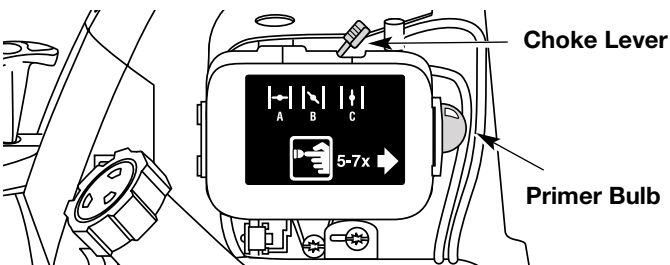

Fig. 9
4. Place the choke lever in the **FULL choke (A) |←|** position (Fig. 9).
NOTE: Slide the choke lever directly above the appropriate symbol on air filter cover decal (Fig. 9).
5. Fully press and release the primer bulb slowly 7 times. Gasoline should be felt and visible in the bulb (Fig. 9). If gasoline has not entered the bulb, press three more times, or until it does.
8. Move the choke lever to the **PARTIAL (B) |↘|** position (Fig. 9).
2. Move the choke lever to the **PARTIAL (B) |↘|** position (Fig. 9).
3. Fully press and release the primer bulb slowly 7 times. Gasoline should be felt and visible in the bulb (Fig. 9). If gasoline has not entered the bulb, press three more times, or until it does.